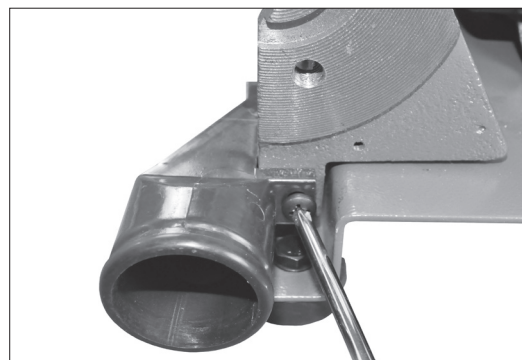

FIG. 8
20. Attach the Dust Port (#19) to the sanding disc base using the M6 Phillips head Screw and Washer (#18, 17). FIG. 8.